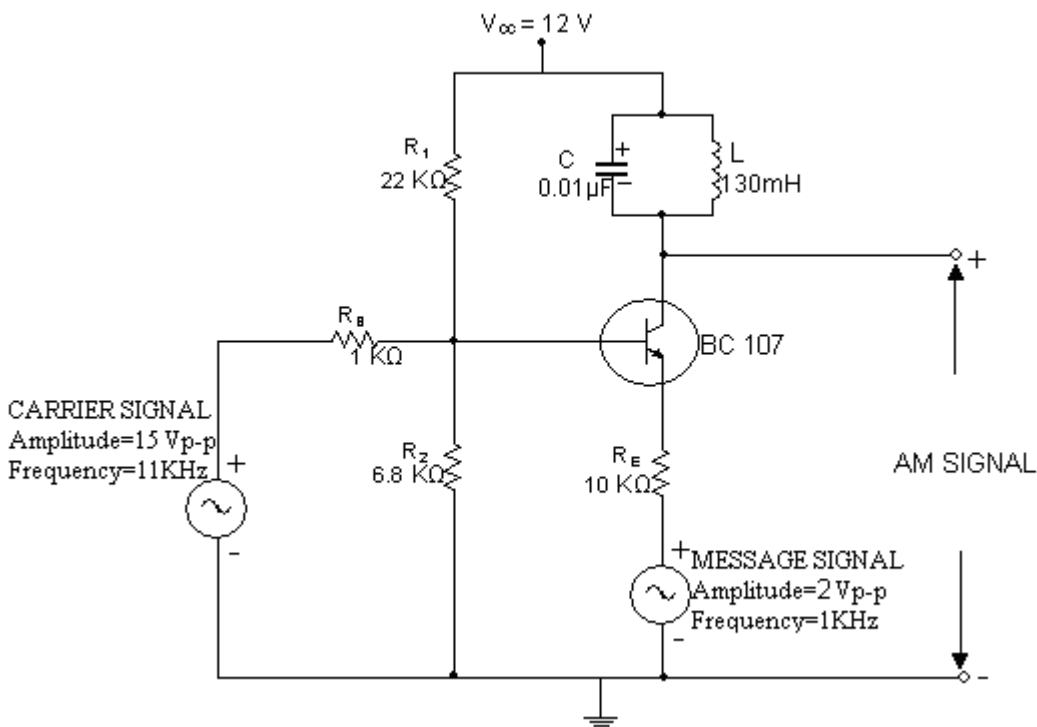

Fig.1. AM modulator
1. The circuit is connected as per the circuit diagram shown in Fig.1.